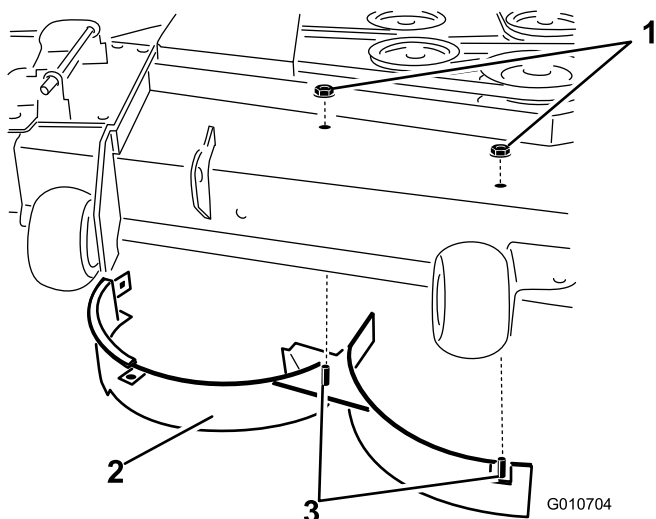

Figure 34
11. Remove the two lock nuts (5/16 inch) to securing the welded posts of the right baffle to the top of the mower deck at center and right of center positions (Figure 34). Remove the right baffle from the mower deck.